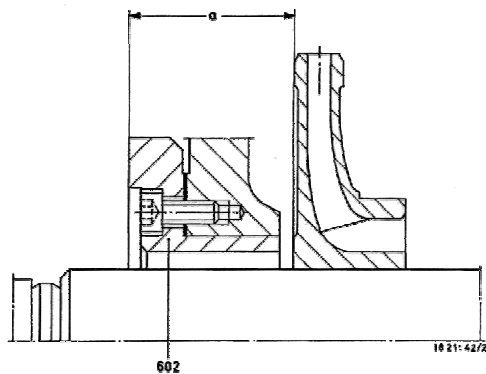

Figure 39 – Rotor adjustment, distance “a”
Measure the distance "a" from the contact face of the balance counter disc (602) to the final stage impeller hub (Fig. 39).